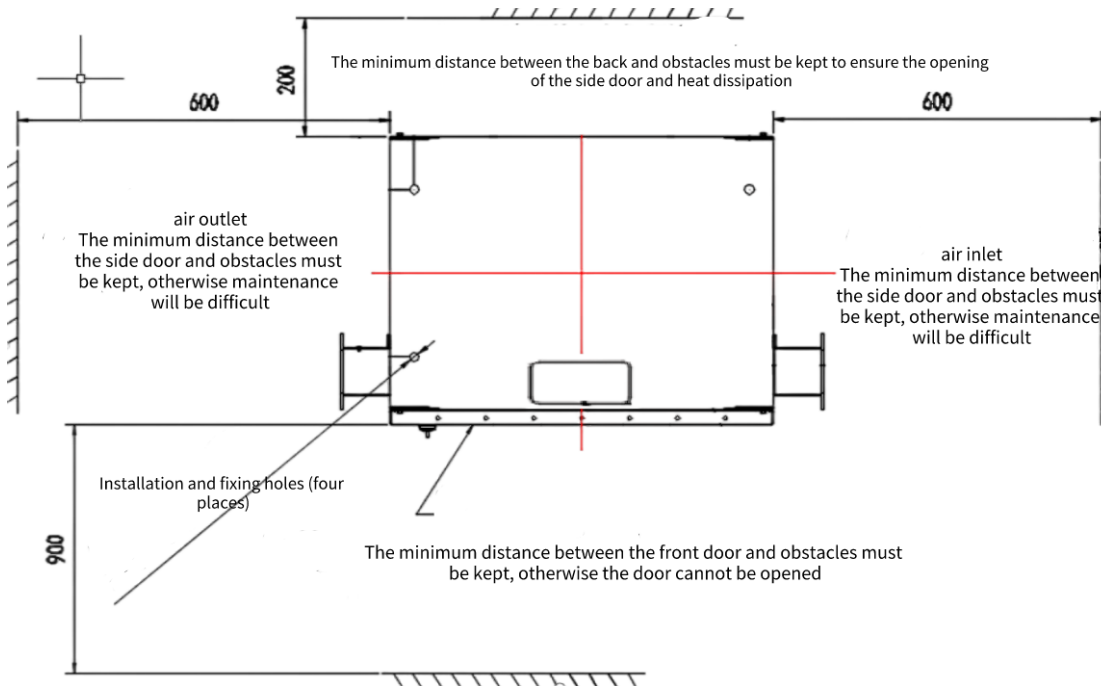

Figure 7.2.1-A Charger Placement Requirements
- 1) The charger has a front door, and an operating space needs to be reserved around it. See Figure 7.2.1-A below for the reserved dimensions
- 3) pre-bury the cable in advance, the cable reserved length is detailed in Figure 7.2.1-B below;